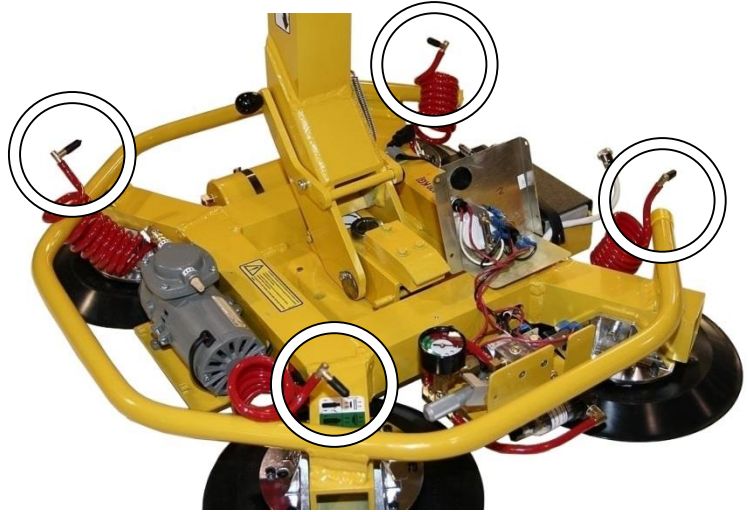

FIGURE 8
- 2) Remove and cap each pad fitting as shown in **FIGURE 8**, disconnecting all the pads from the vacuum system.